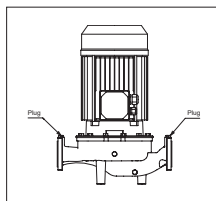

FIG 4: Plugs required to check the filling of pumps
- Remove the plug/hexagonal cap located on top of the pump casing (FIG 4);